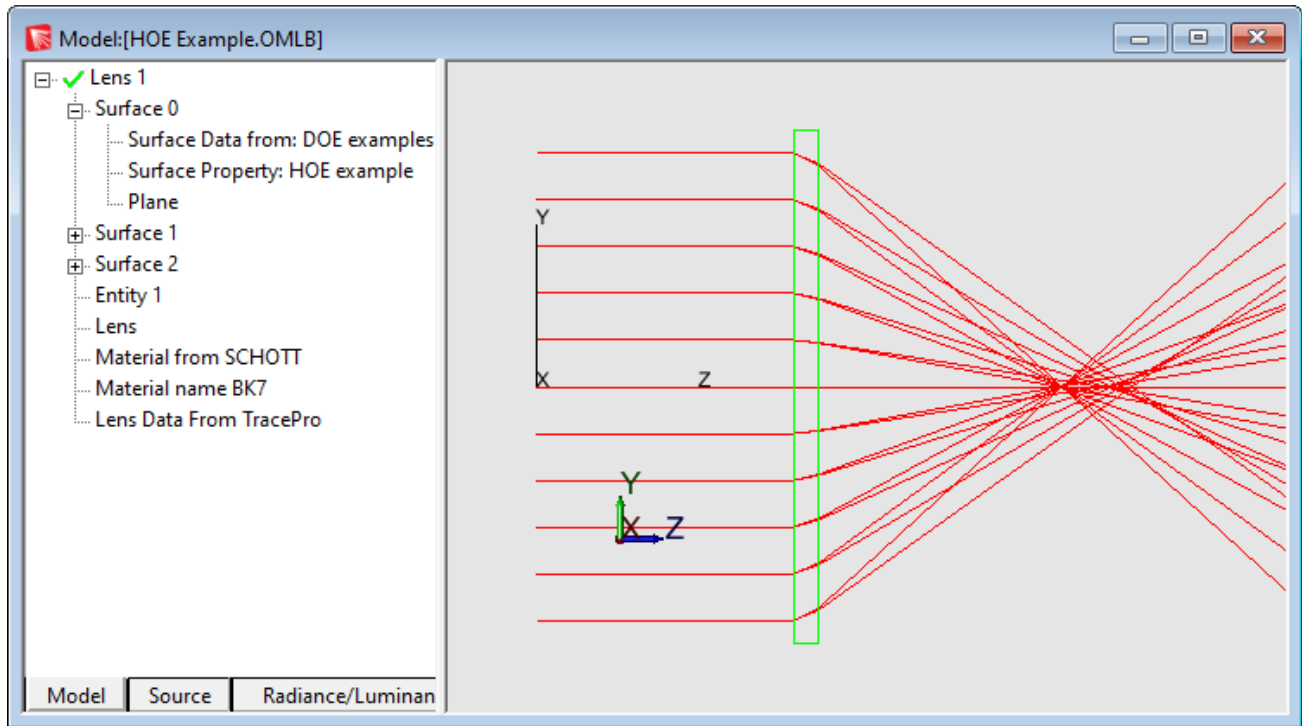

Figure 10. HOE ray-trace with wavelengths 0.5461 and 0.633  $\mu\text{m}$  converging at different distances behind the glass plate.
10. Trace rays and observe that the two wavelengths focus at different distances from the Lens Element as shown in Figure 10.